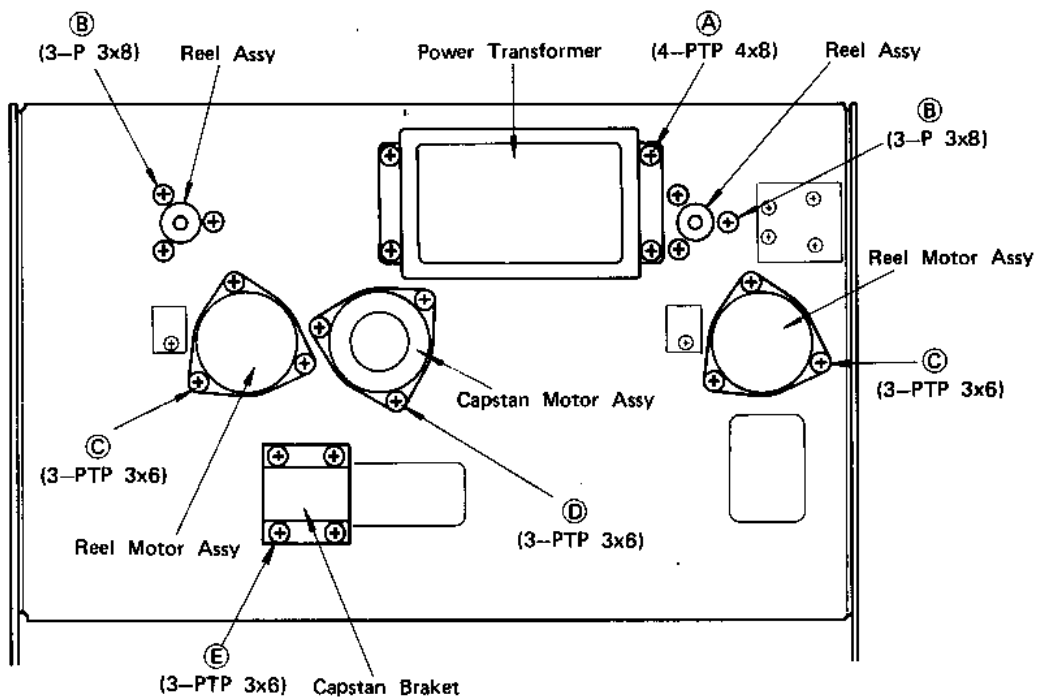

Fig. 6-7
10) Power transformer (Fig. 6-7)
* Remove the four (A) screws.
11) Reel assembly (Fig. 6-7)
* Remove the three screws (B) and the reel assembly can be taken out from the front side of the recorder.
12) Reel motor assembly (Fig. 6-7)
* Remove the three screws (C) and the reel motor assembly can be taken out.
13) Capstan motor assembly (Fig. 6-7)
* Remove the three (D) screws and the capstan motor assembly can be taken out.
* Remove the four (E) screws, shown in Fig. 6-7, and after removing the capstan shaft thrust bracket, replace the belt through the cutout at right of the bracket.